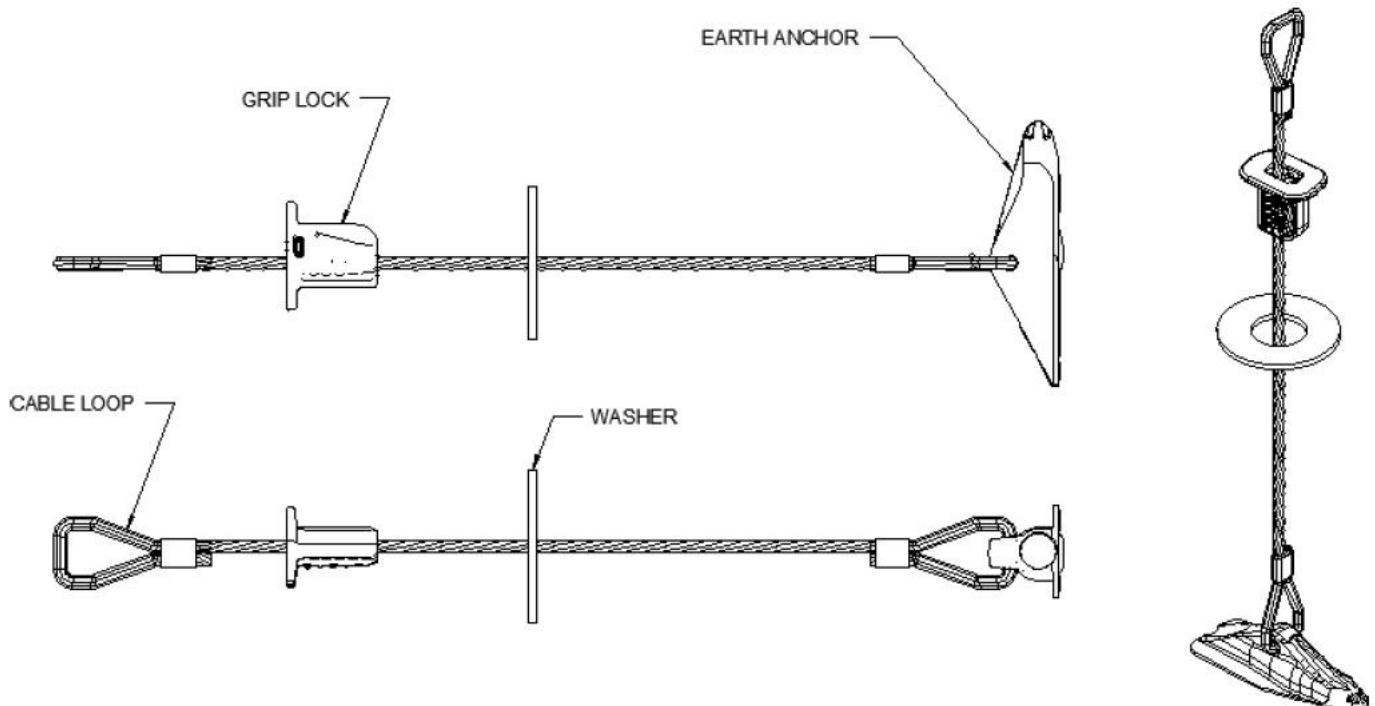

Figure 23: Earth Anchor Assembly
4. Drive the anchor to the full depth of the cable. Post pounding attachments are available for bobcats for larger projects but may require a thicker drive rods sold separately by Nuance. Refer to Figure 23 below.